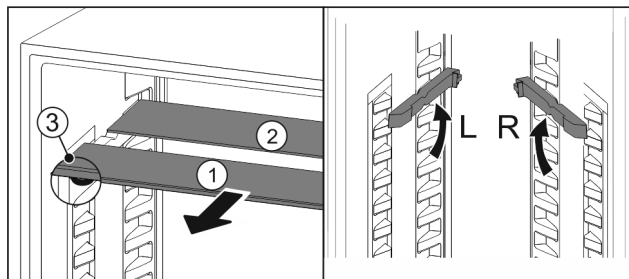

Fig. 82
- Pull the glass panels out Fig. 82 (1) from the front, one at a time.
- The glass panel Fig. 82 (1) and trim strip are at the front.
- The stops Fig. 82 (3) point down.